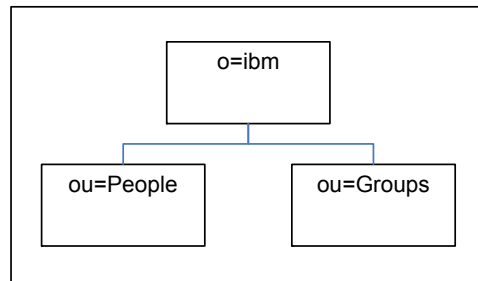

Figure 16-9 Default directory information tree created by `mksecdap` command
4. Creates the base DN (o=ibm in this example). The directory information tree that will be created in this example by default is shown in Figure 16-9.